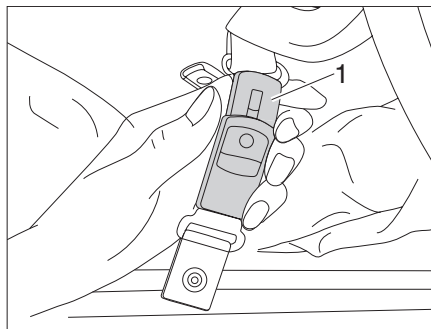

Fig. 33 Opening the securing belt
- ▶ Open the securing belts (Fig. 33,1).